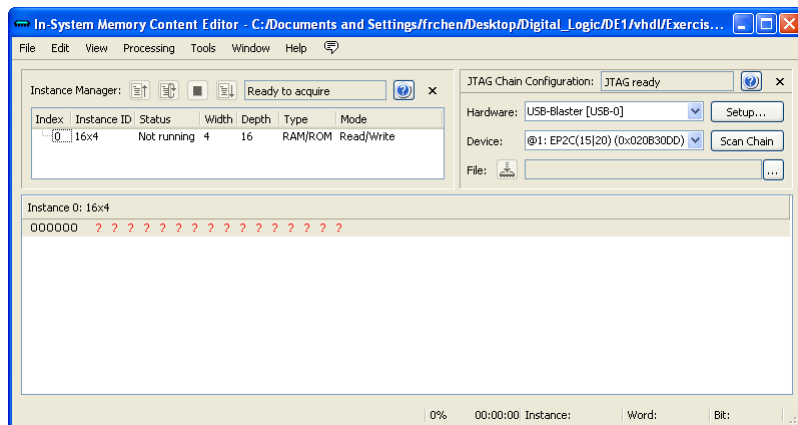
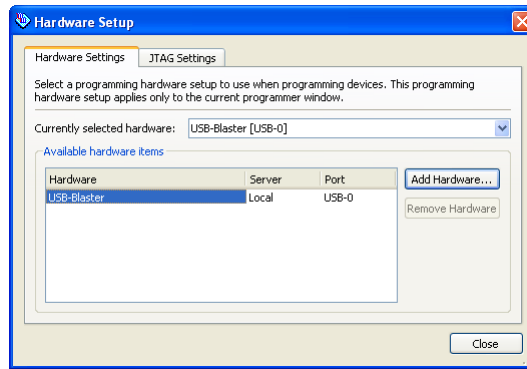

Figure 8: The In-System Memory Content Editor window.
Figure 9: The Hardware Setup window.
5. Select Tools > In-System Memory Content Editor, which opens the window in Figure 8. To specify the connection to your DE1 board click on the Setup button on the right side of the screen. In the window in Figure 9 select the USB-Blaster hardware, and then close the Hardware Setup dialog.